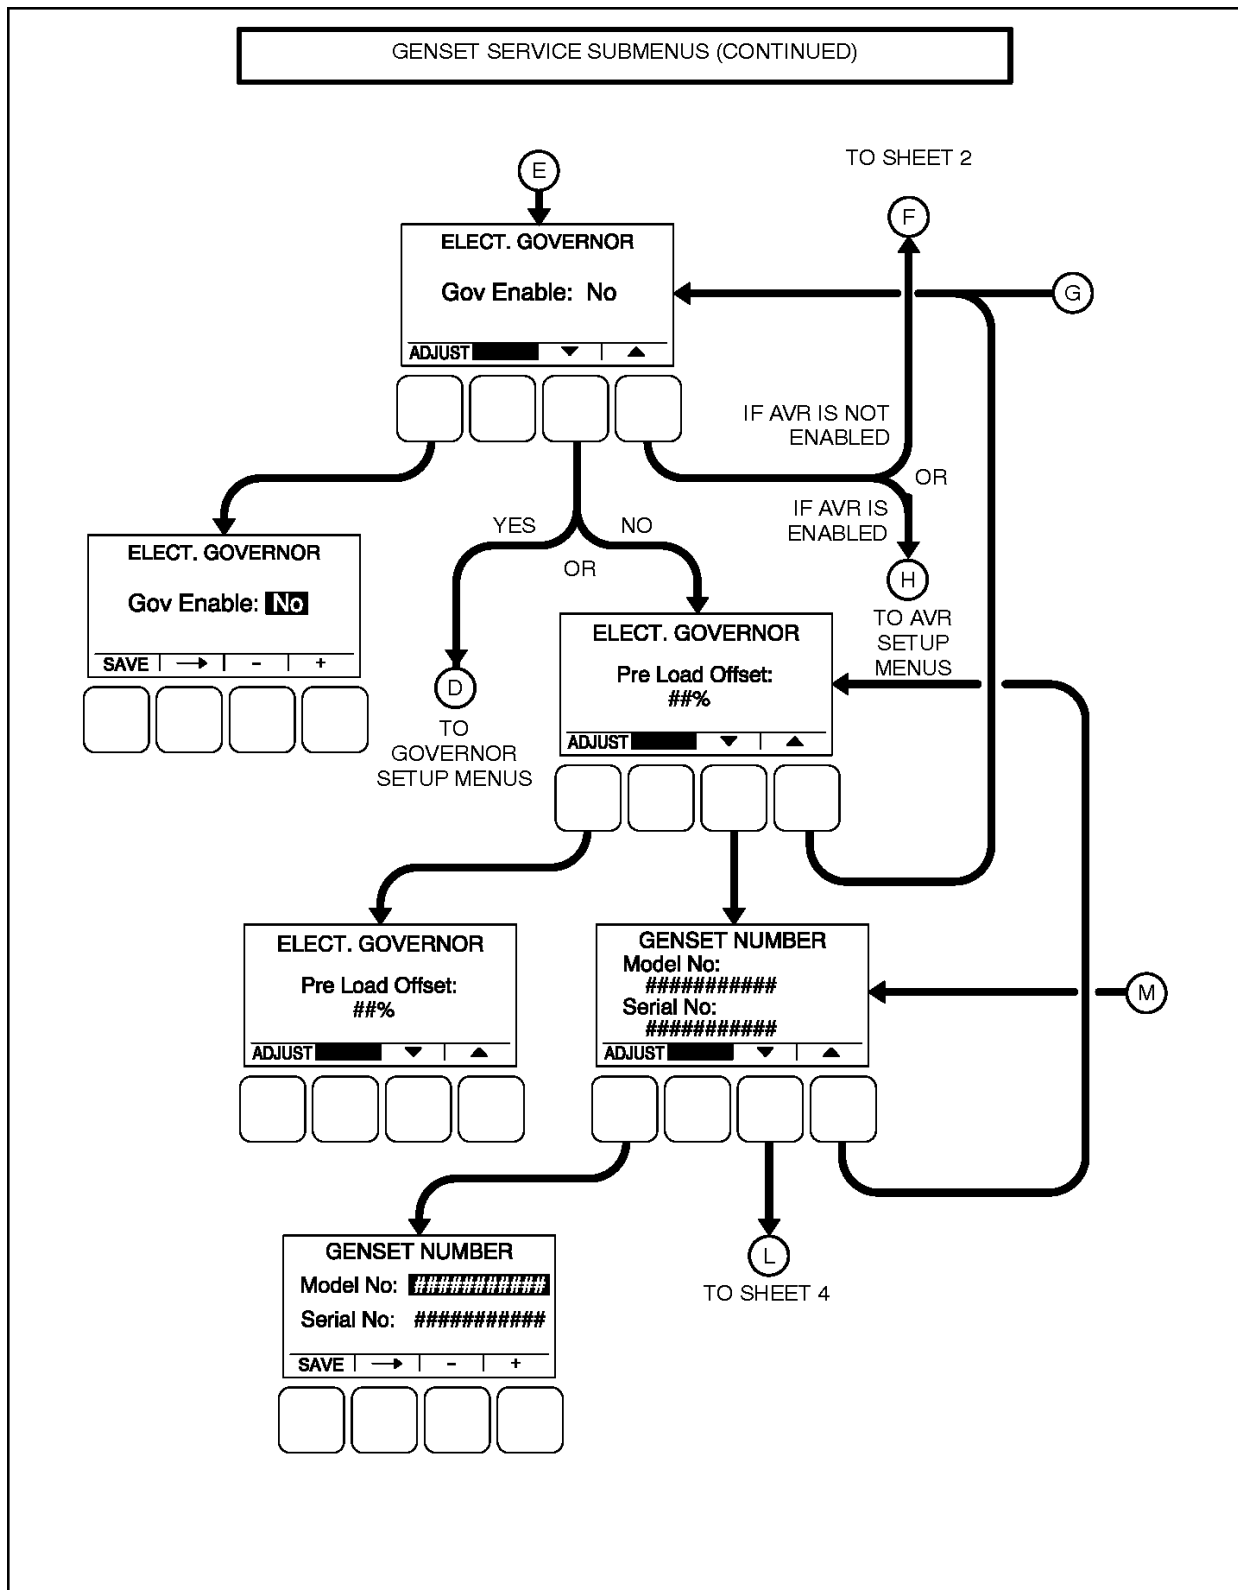

FIGURE 55. GENSET SERVICE - ELECTRONIC GOVERNOR AND GENSET NUMBER SUBMENUS
- Electronic Governor (Figure 55 on page 100)
- Genset Model and Serial Number (Figure 55 on page 100)
The engine Electronic Governor Enable menu (Figure 55 on page 100) is used to enable or disable the electronic governor on generator sets with electronic governors and magnetic pickup sensors. If enabled (set to "Yes"), four additional menus are displayed that can be used to adjust governor settings (see Section 8.3.5 on page 105).
The Pre-Load Offset menu (Figure 55 on page 100) is used to enter a percentage of governor duty cycle that is first used when exiting cranking.
The Genset Number menu (Figure 55 on page 100) is used to enter the generator set model and serial numbers. Each allow up to 16 characters to be entered.